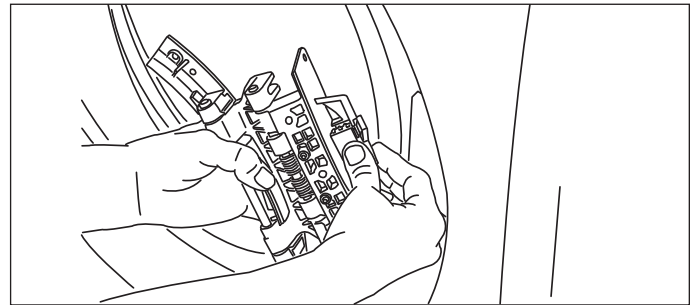

Figure 2-30.
2. Connect the harness to the hinge retainer by inserting it in the retention terminal and gently pushing until you hear the fastening tab click. (See Figure 2-30)